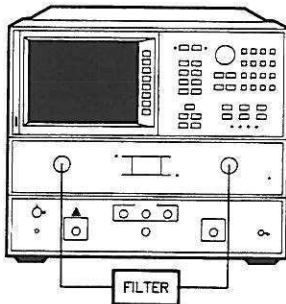

Figure 13. E/E Device Measurement Configuration
6. Connect the measurement configuration as shown in Figure 13. The analyzer shows the complete transmission response of the bandpass filter. To better view the measurement trace, press: